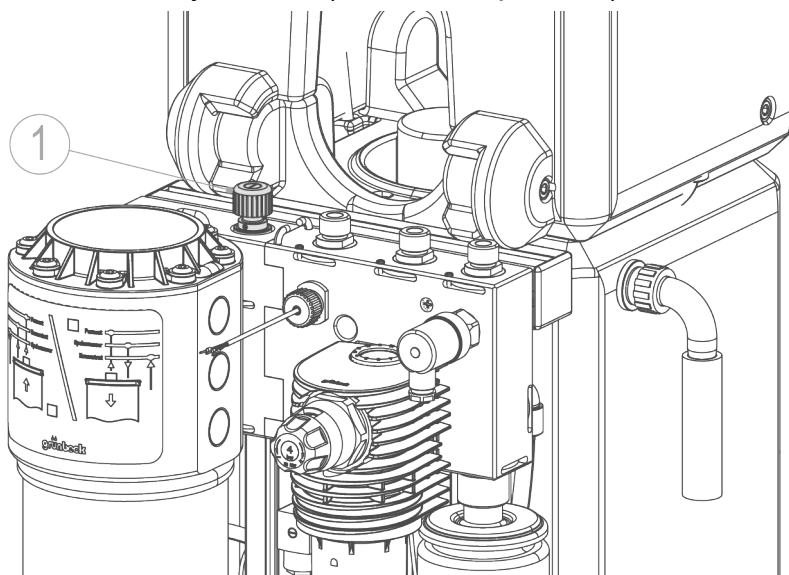

Fig. F-4: Hydro module
- Set the concentrate flow at the concentrate needle valve (refer to fig. F-4, no. 1)